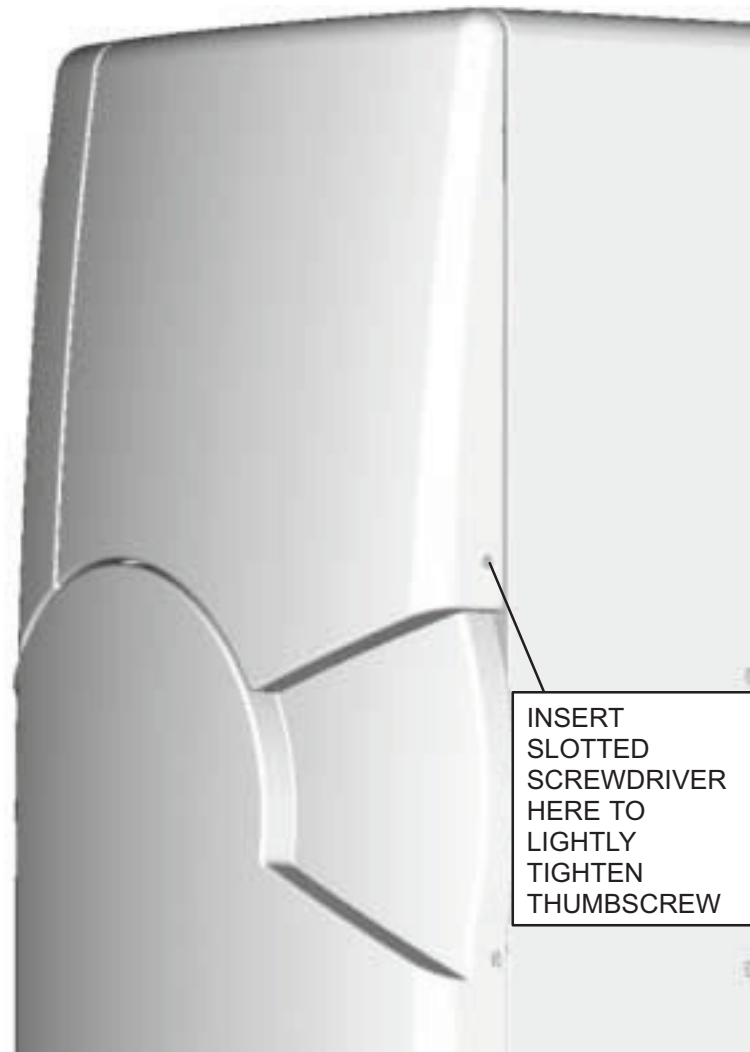

FIGURE 237 THUMBSCREW LOCATION
4. Visually locate the thumbscrew through the hole on the back side of the Upper Right Column Cover. Insert a long, narrow slotted screwdriver into the hole and lightly tighten the thumbscrew. This is a blind connection, so ensure you get the right “feel” of the captive screw starting correctly. Refer to Figure 237.